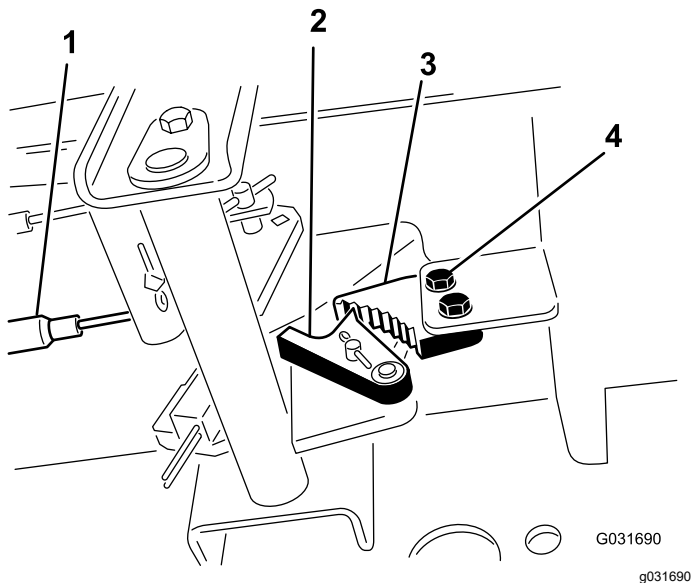

Figure 90
1. Loosen the 2 screws securing the parking brake pawl to the frame (Figure 90).
2. Press the parking brake pedal forward until the brake detent completely engages on the brake pawl (Figure 90).